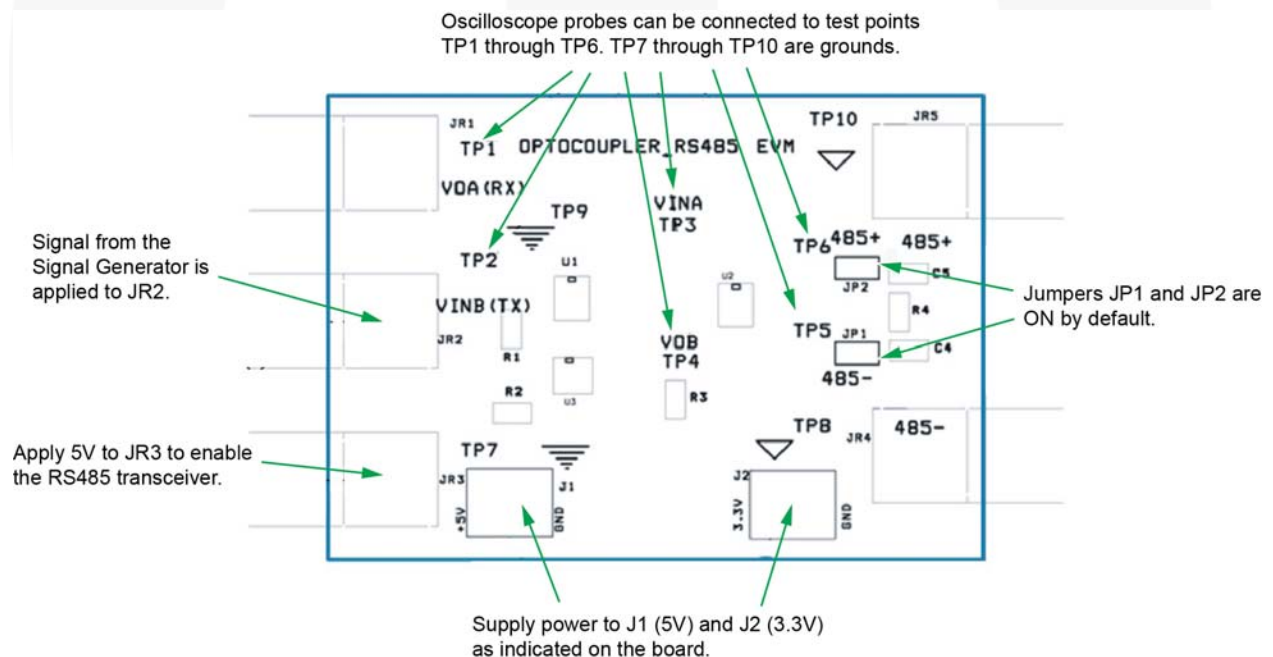
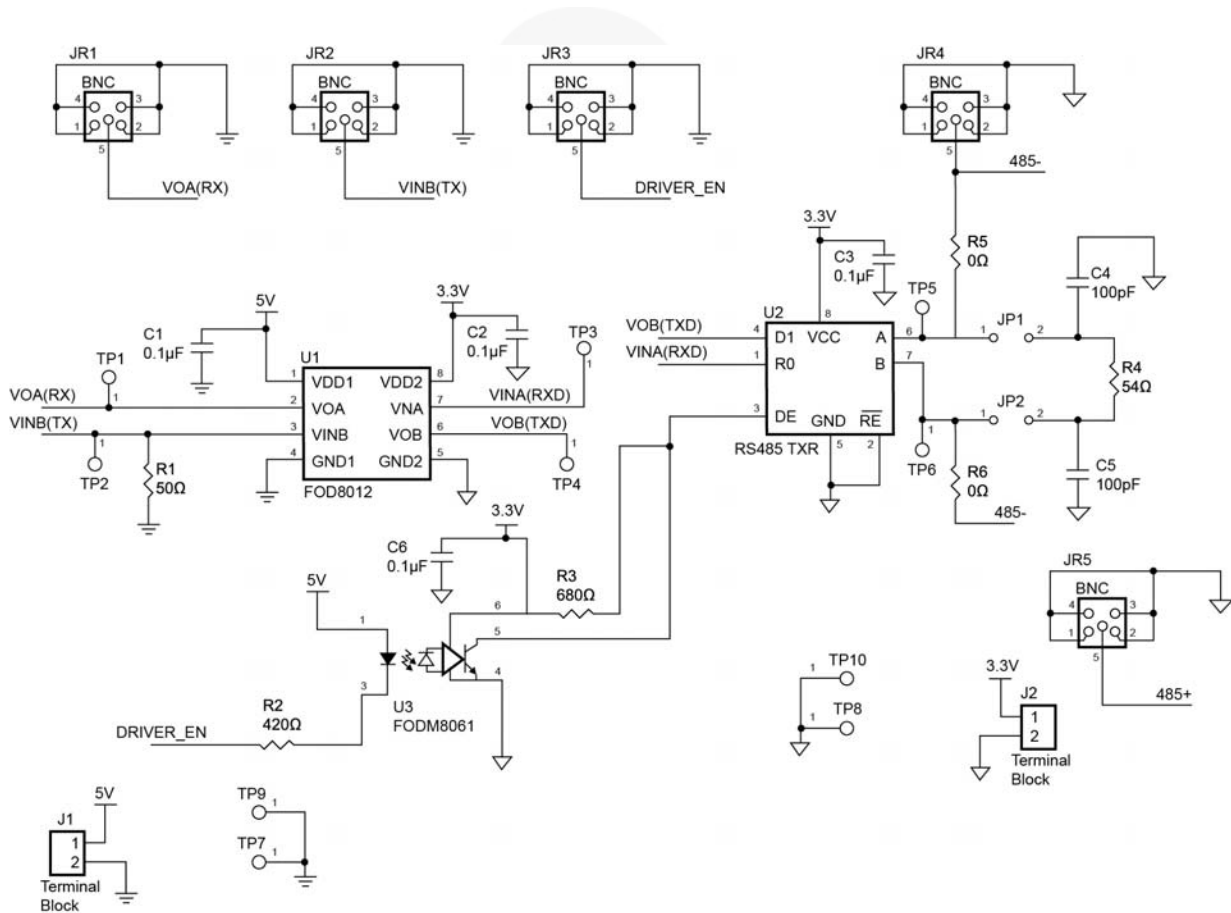
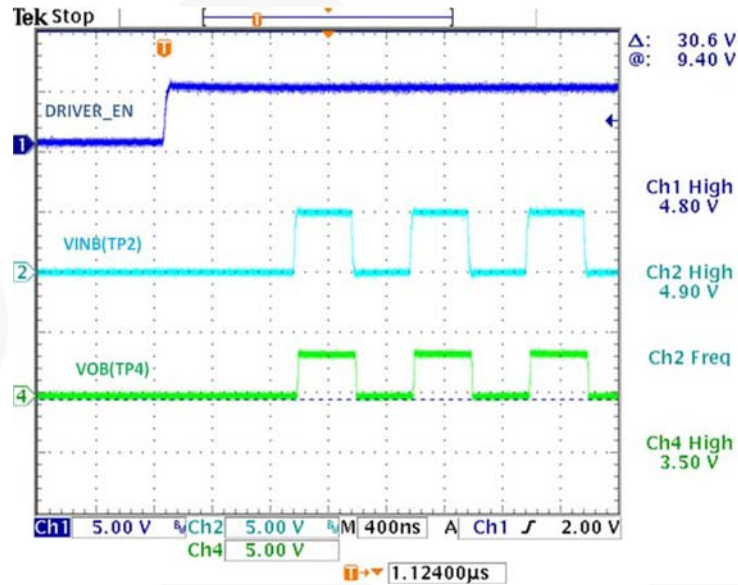
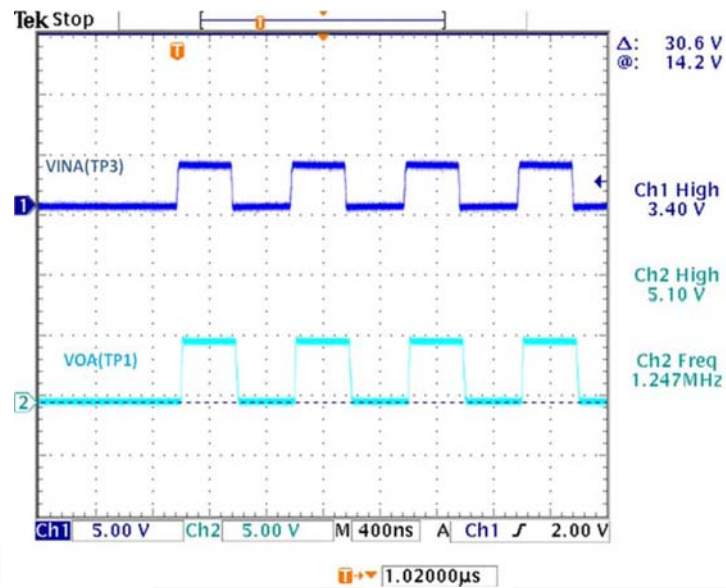

Figure 3. FEBFOD8012_RS485 Board Setup
Figure 4. Evaluation Board Schematic
Figure 5. DRIVER_EN and VINB are Input Signals; FOD8012 Output Signal, VOB, Drives RS485 Transceiver
Figure 7. Output Signal from RS485 Transceiver Drives the Input, VINA, of FOD8012; VOA is FOD8012 Output Signal
The FEBFOD8012_RS485 evaluation board enables users to make a quick and accurate assessment of Fairchild's FOD8012 in a bi-directional data transmission application. The setup requires two power supply sources. V_{DD1} (J1) is on one side of the isolation barrier with V_{DD2} and VCC (J2) is on the other side of the isolation barrier, sharing the same power supply source. A square wave is applied to one of the FOD8012 channels (VINB / VOB), which in turn drives the RS485 transceiver. The resulting RS485 output is fed back to the input of the other FOD8012 channel (VINA / VOA). This completes the bi-directional data transmission loop. Test points located at selected positions (as indicated in Figure 3 and Figure 4) allow the user to probe the signals and measure the switching characteristics of the device.
The steps below and Figure 3 describe the default setup of the FEBFOD8012_RS485 evaluation board.
6. Enable the signal generator. The signal waveforms can be probed at various test points, as shown in Figure 3:
- TP1: VOA (RX) is the output voltage from channel-A of the FOD8012.
- TP2: VINB (TX) is the input voltage to channel-B of the FOD8012. Signal from the signal generator is applied here.
The scope shots in Figure 5 through Figure 7 illustrate normal operation of the RS485 data transfer via the isolated channels of the FOD8012. Refer to Figure 4 for the circuit schematic.